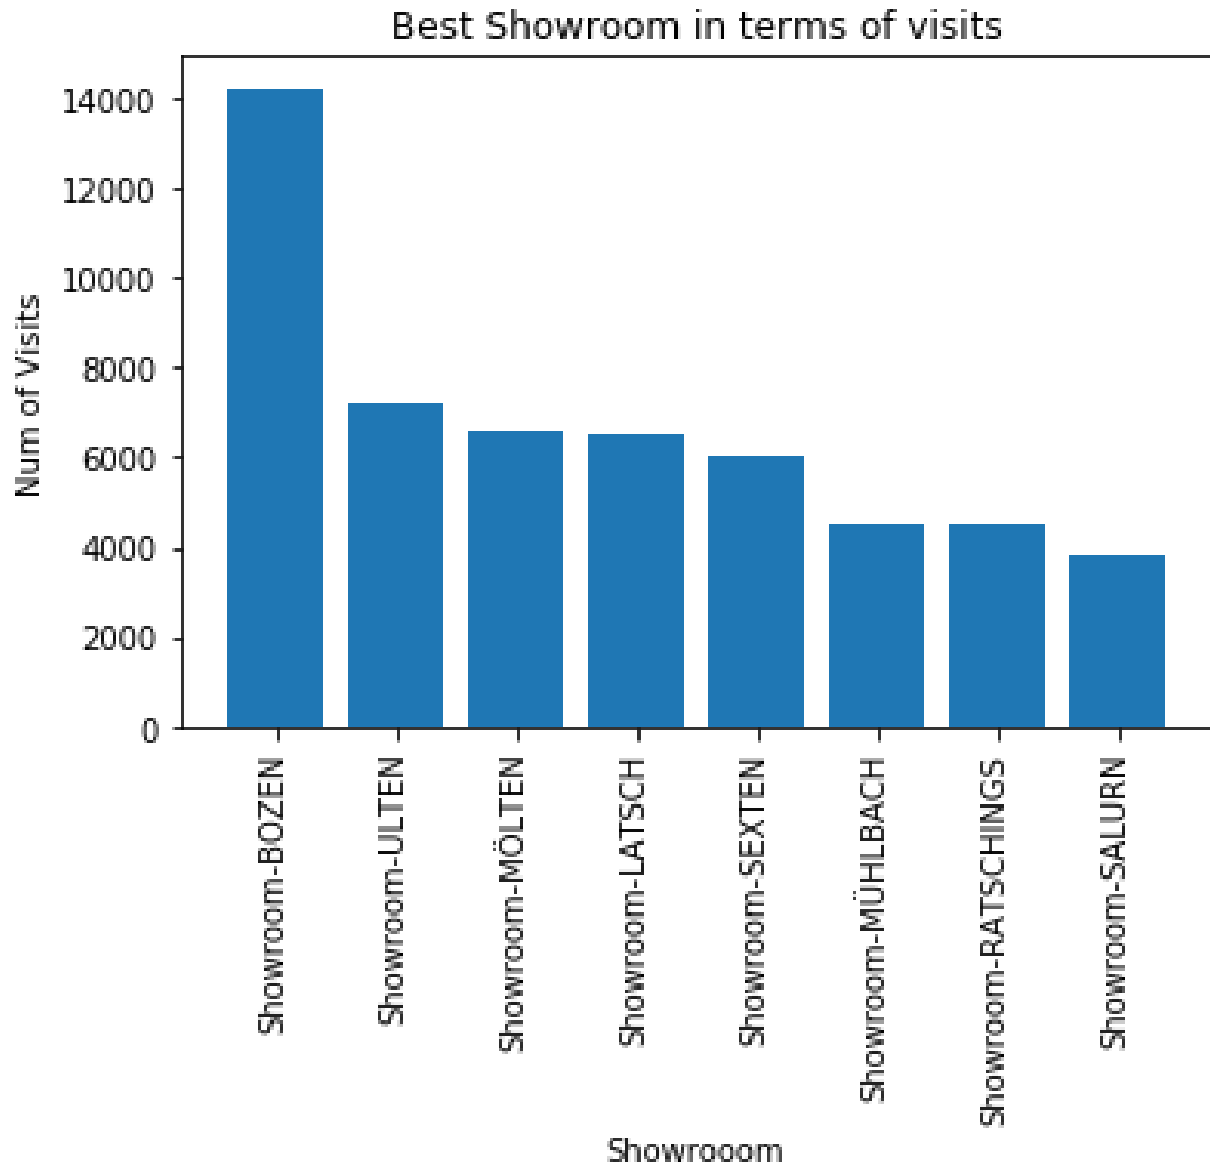

Figure 7: Best running Showroom
- Which is the best running showroom? Fig. 7
Figure 7 shows the number of visitors per showroom in decreasing order. It becomes clear that the showroom in Bozen has nearly the double number of visitors as the next smaller showroom.